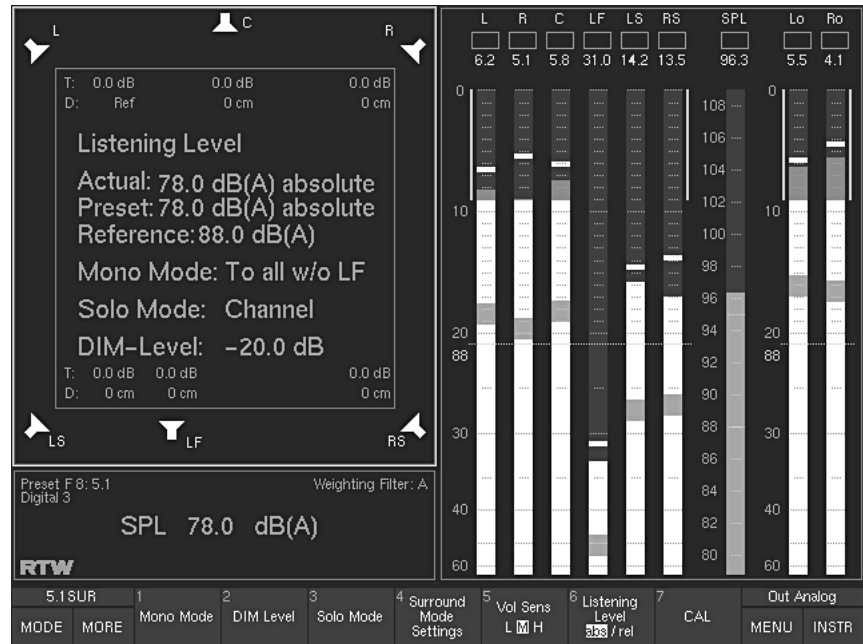

Fig. 5-31: First Toolbar function layer of the MONITORING instrument. Select **MORE** to display additional functions (layer 2)
(First layer, button/key 1, see Fig. 5-31)
(First layer, button/key 2, see Fig. 5-31)
(First layer, button/key 3, see Fig. 5-31)
(First layer, button/key 4, see Fig. 5-31)
(First layer, button/key 5, see Fig. 5-31)
(First layer, button/key 6, see Fig. 5-31)
(First layer, button/key 7, see Fig. 5-31, not available in 2-Channel Stereo mode)